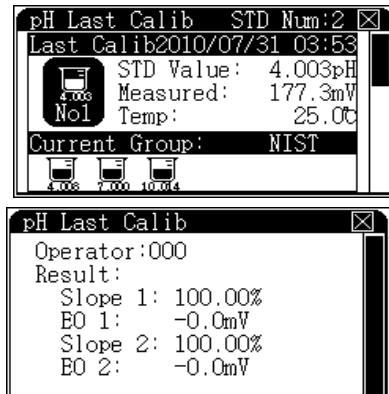

Figure 39 Viewing pH calibration data
- 2 Press [**Enter**] to view last calibrated pH data as shown in **Figure 39**.